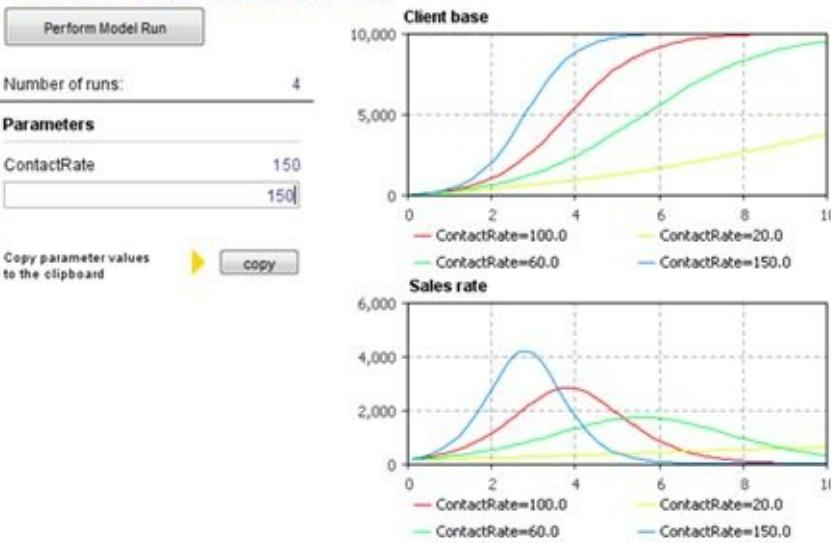

Figure 5.25 Compare runs experiment
3. In the **Parameters** page, select the *AdEffectiveness* parameter and specify that it is varied from 0 to 0.2 with the step of 0.01, see Figure 5.25. Proceed to the next page.